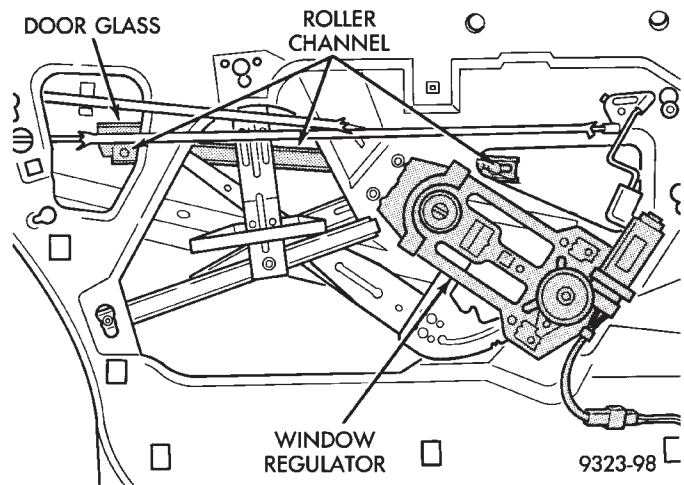

Fig. 40 Rear Door Glass
- (1) Remove door trim panel and upper trim retainer channel.
- (2) Remove window frame applique.
- (3) Raise door glass to gain access to roller channel to glass fasteners through holes in inner door panel.
- (4) Loosen screws holding regulator roller channel to glass (Fig. 40).
- (5) Slide roller channel rearward to allow screw heads to pass through key hole slots in channel.
- (6) Separate glass from roller channel.
- (7) Raise glass upward and out of the opening at top of door.